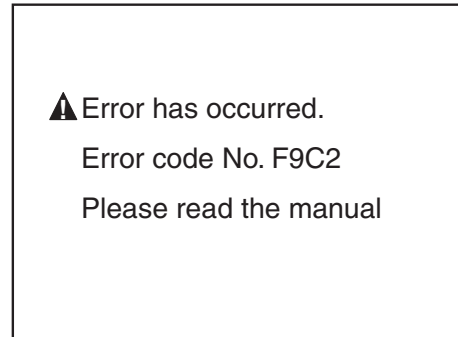

Fig. 3-2b
- If the same trouble occurs consecutively three times, the message shown in Fig. 3-2b will appear on the LCD monitor screen.